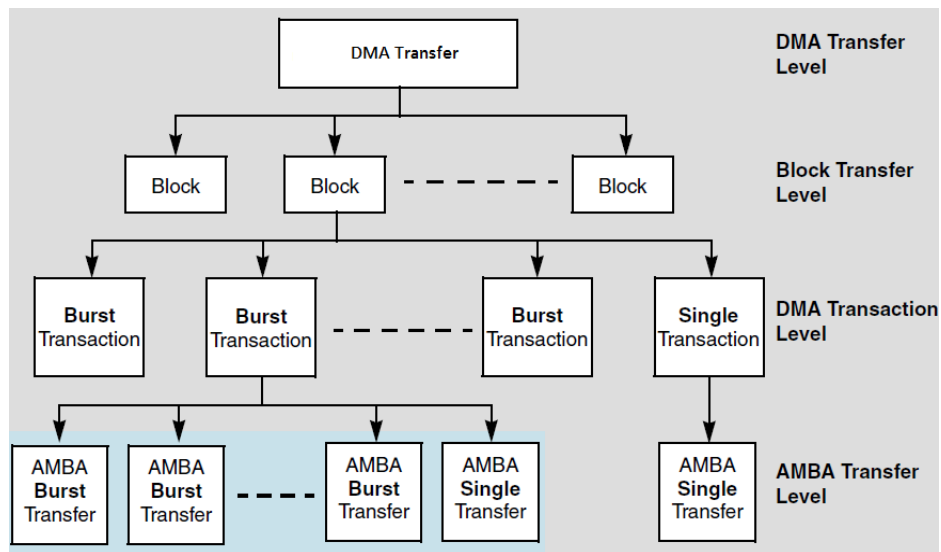
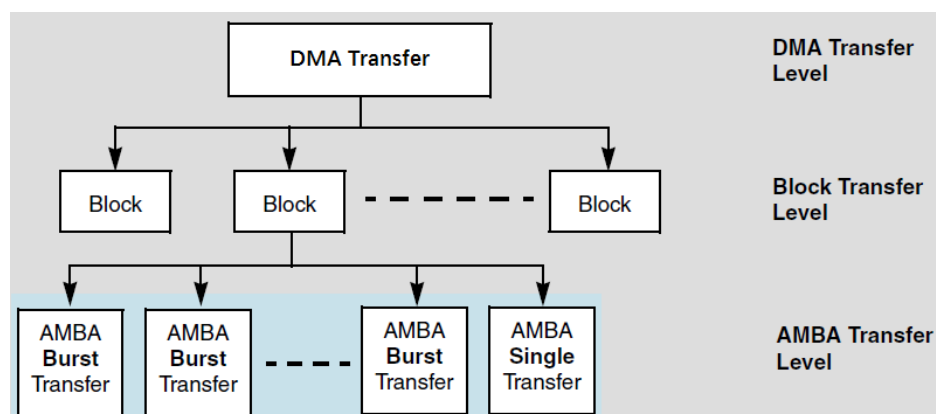

Fig 9-4 DMA Transfer Hierarchy for Non-Memory Peripherals
Fig 9-5 DMA transfer hierarchy for memory
- **Transfer hierarchy** – Fig 9-4 illustrates the hierarchy between DMA transfers, block transfers, transactions (single or burst), and AHB transfers (single or burst) for non-memory peripherals. Fig 9-5 shows the transfer hierarchy for memory.